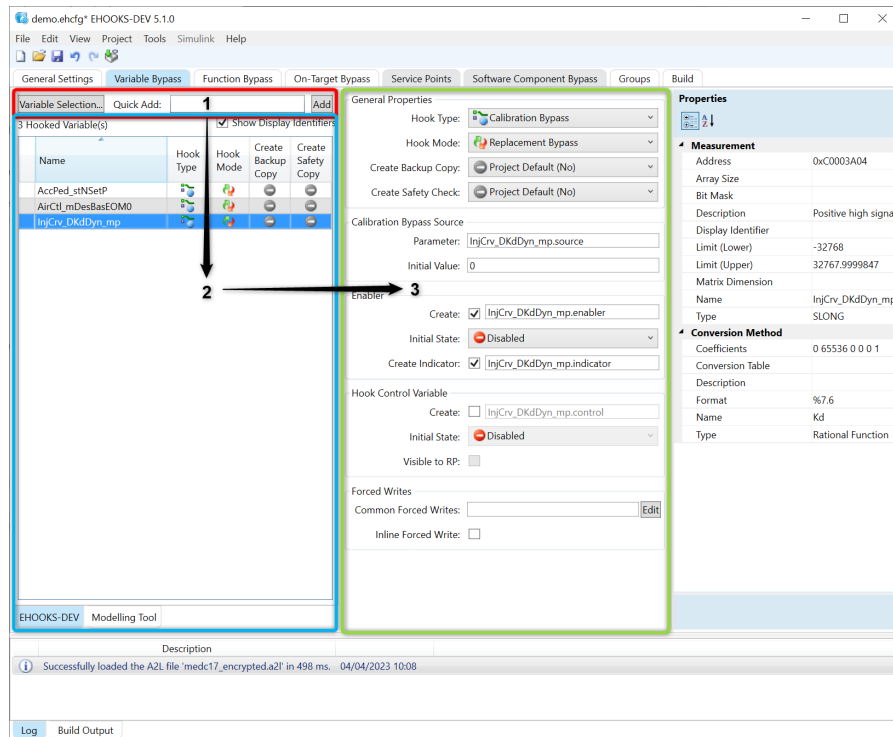

Figure 5.9: Variable Bypass Configuration
- Step 1: Select the ECU variable to be hooked (see red highlight in figure 5.9). Selecting an ECU variable to hook will cause EHOOKS-DEV to add it to the list in step 2.
- Step 2: Provides a list of ECU variables selected to be hooked within the EHOOKS-DEV project configuration (see blue highlight in figure 5.9). Selecting a hooked variable (or several hooked variables) from this list allows the associated hook properties to be configured in step 3. To remove a variable hook from the configuration simply select it and press the Delete key or **right-click -> Delete**.
- Step 3: Configure the properties to provide the desired ECU variable hook information for the selected ECU variable hooks (see green highlight in figure 5.9)